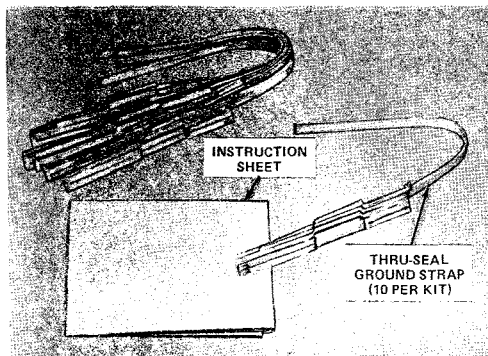

Fig. 9—♦Kit of Parts D-181224♦
- (1) Kit of Parts D-181224 (Fig. 9) consists of 10 thru-seal ground straps for bonding cable sheath to external ground.